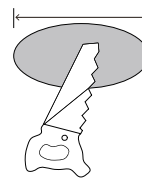

Figure 1
1. Turn off the power before installation. Remove the existing fixture if applicable. Determine the location and necessary hole cutout diameter using the supplied table and cut the ceiling hole with the listed approximate diameter (see Fig 1).